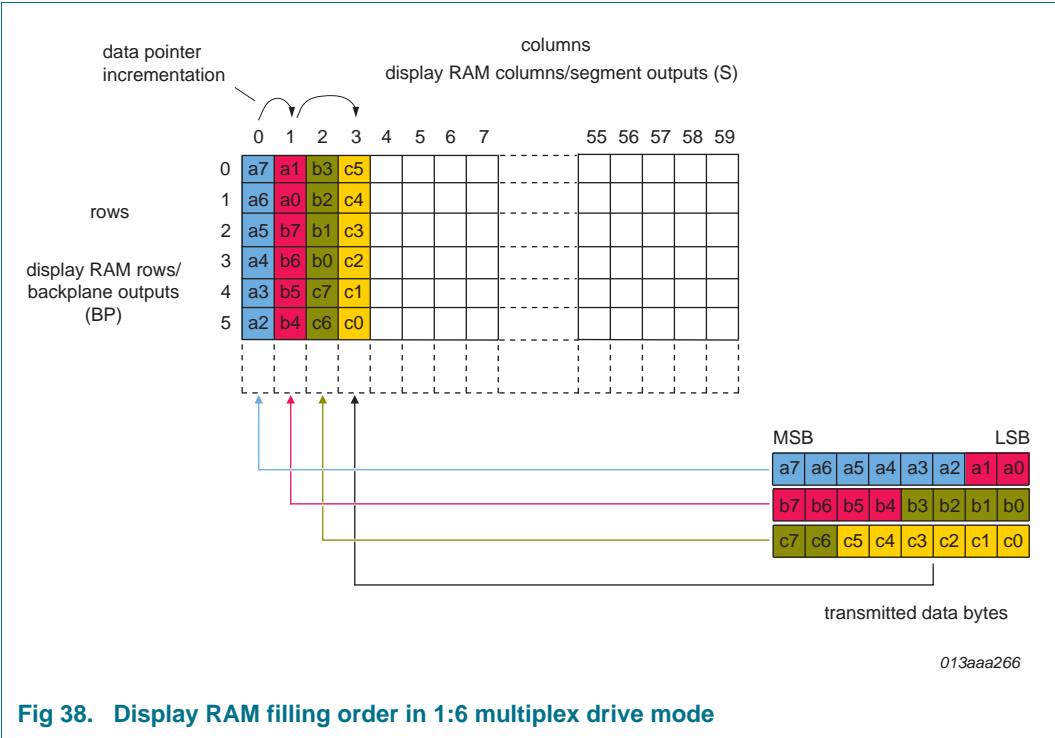

Fig 38. Display RAM filling order in 1:6 multiplex drive mode
- by one or two (1:6 multiplex drive mode), see Figure 38 on page 47
In the 1:6 multiplex drive mode the RAM is organized in six rows and 60 columns. The eight transmitted data bits are placed in such a way, that a column is filled up (see Figure 38).